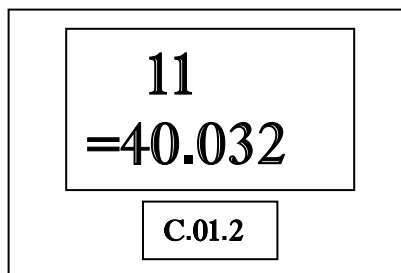

Figure 51
1. Press the **ENTER** button. The main display indicates Volume totals. See Figure 51.
The main display shows the total volume amount. For example: If the total volume amount for the dispenser were 1,140.032 gallons, the display would appear as in Figure 51. These totals are accumulative and cannot be changed. The dispenser displays the volume amount to three decimal places for gallons, two decimal places for liters, and three decimal places for Imperial gallons.